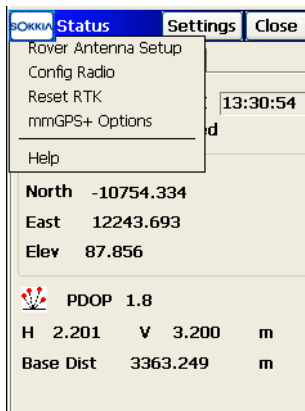

Figure A-22. mmGPS+ Options
1. On the *Status* screen (SRV ► **Status**), tap the **bitmap menu** in the upper-left corner of the screen, and select **mmGPS+ Options** (Figure A-22). The *mmGPS+ Opts* screen displays.